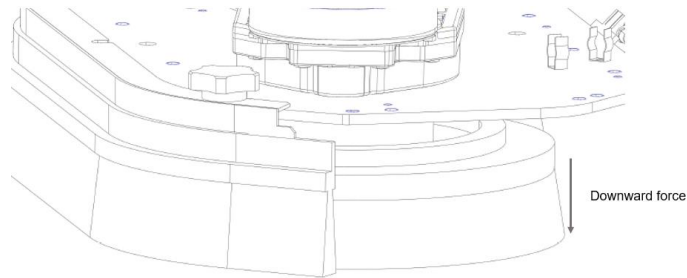

FIG.29
3. Hold the brush/pad driver with hand and apply downward force to make it drop off as shown in FIG.29.